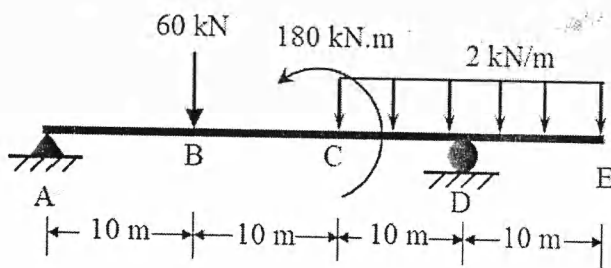

Figure 1
1. Draw Shear Force Diagram and Bending Moment Diagram for the beam shown in Figure 1. [10]